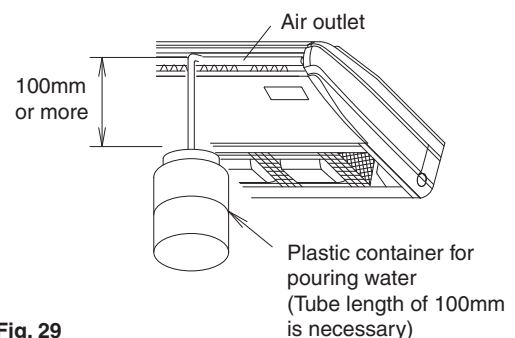

Fig. 29
- Gradually put about 0.6 liter of water for drain confirmation into the drain pan from the air outlet. **(Refer to Fig. 29)**